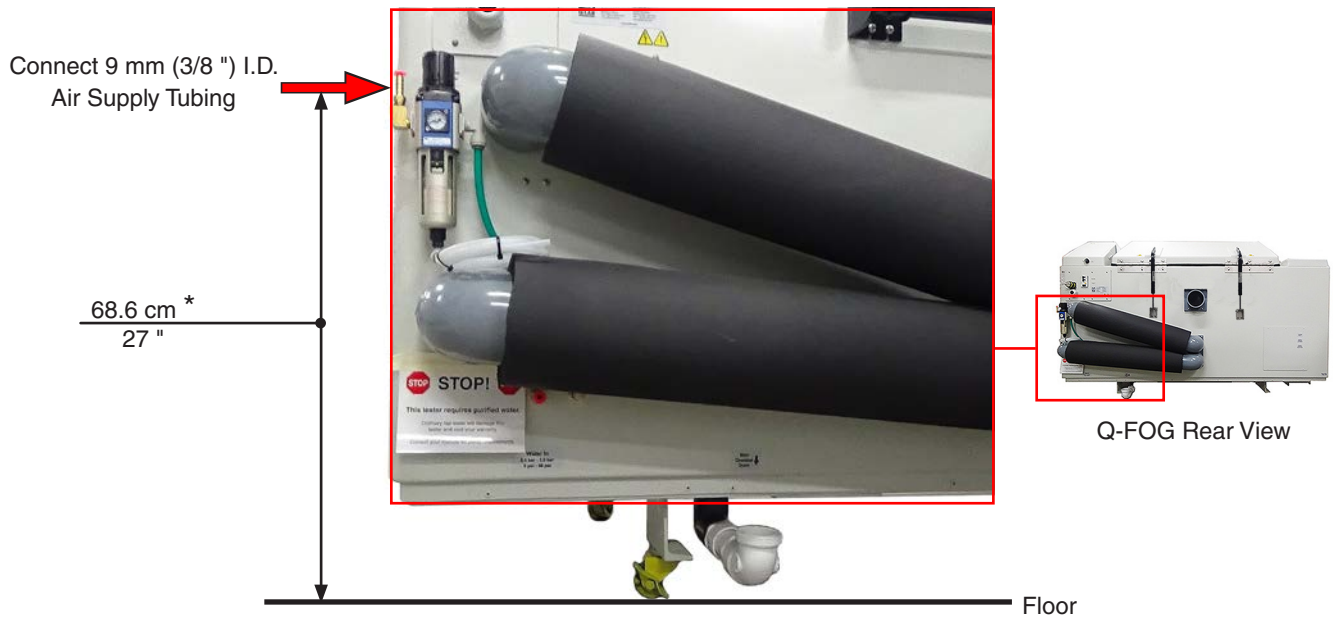

Figure 6.5c: Compressed air connection.
- 9 mm (3/8") inside diameter compressed air supply tubing is required to connect to the air inlet at the rear of the cabinet (Figure 6.5c).